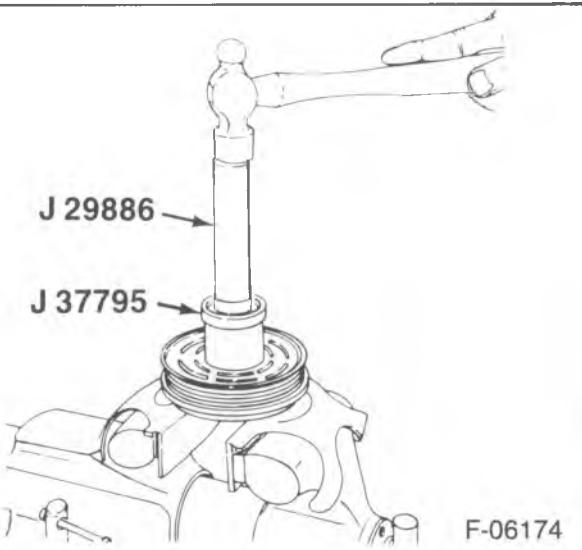
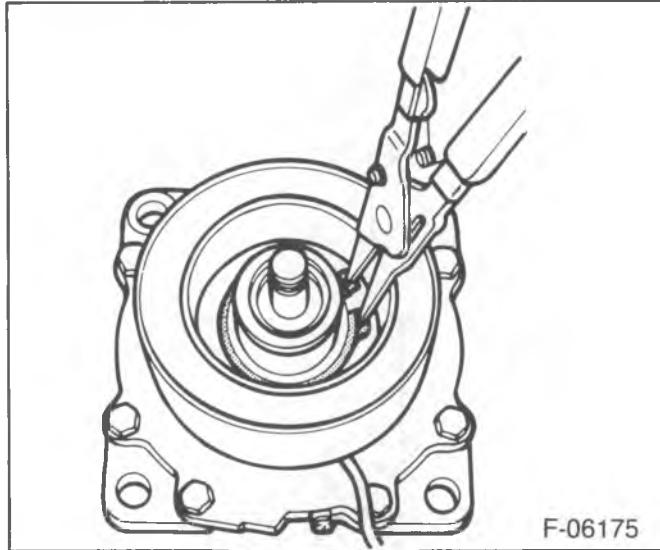

Figure 8—Removing the Bearing
Figure 9—Removing the Coil Snap Ring
- Tap the bearing (6) out (figure 8).
- 7. Field coil (10).
- Remove the snap ring (7) (figure 9).